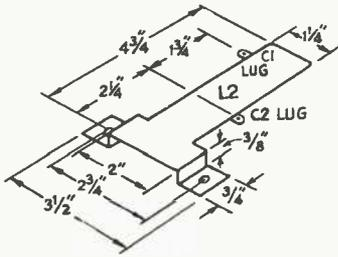

Fig. 13-47 — Details of the half-wave grid line, L2. Material is flashing copper or similar sheet brass.
- L2 - Half-wave grid circuit, flashing copper. See Fig. 13-47.